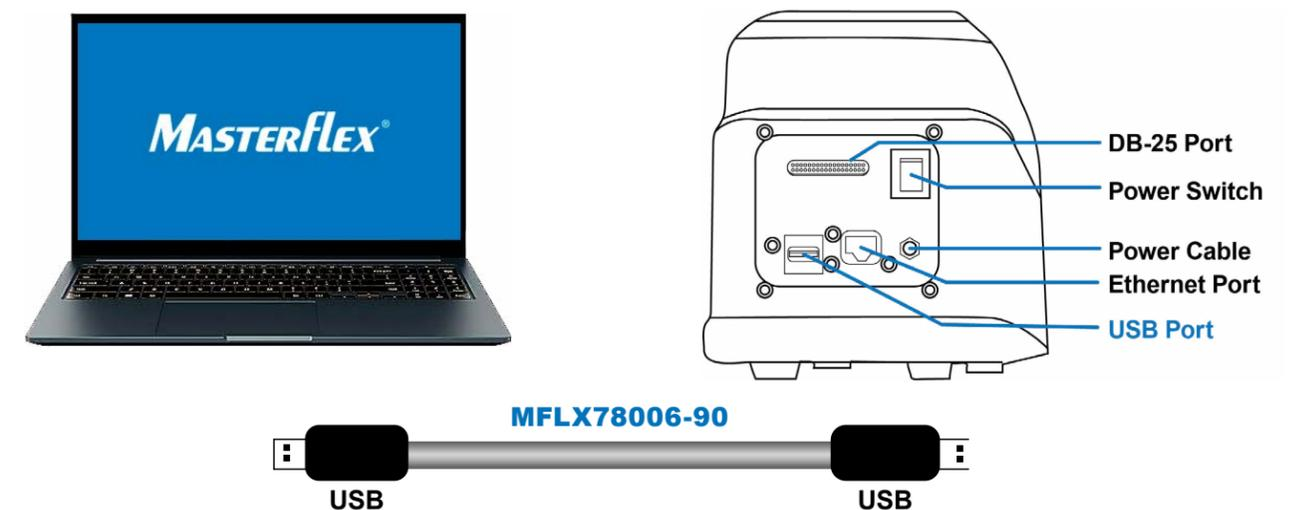

Figure 1. Adapter cable for PC Host interface for Pump Serial Communication control.
RS232 Serial communication is available via virtual com port utilizing the USB port on the back panel of the pump-drive. An adapter cable is required for communication (see Figure 1 below).
- If a host PC operating on Windows, Mac, or Linux is used to control the pump through serial communication, the Masterflex **MFLX78006-90** serial cable is needed (see Figure 1 below).